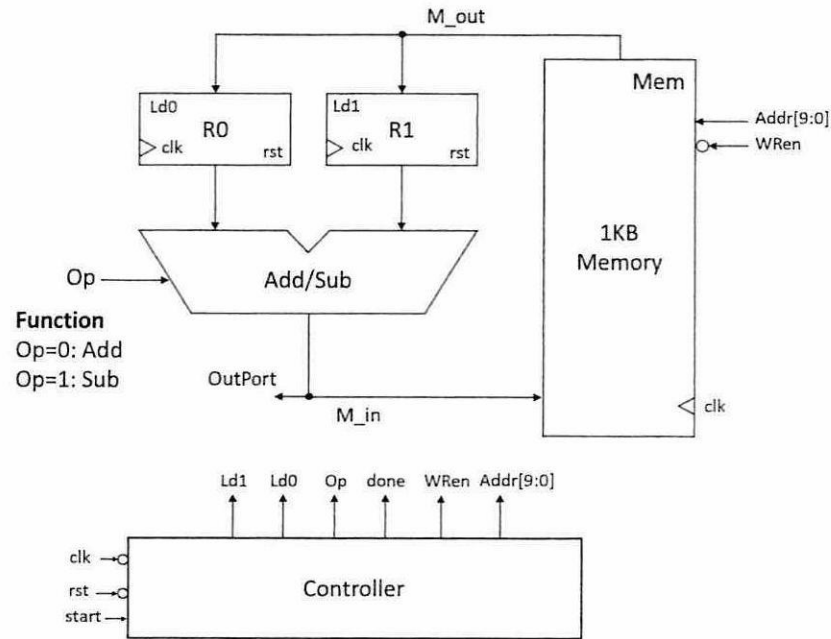

Figure Q5.1
**Q5** Figure Q5.1 shows a datapath and a controller of a digital system, containing two 8-bit registers *R0* and *R1*, an Adder-Subtractor circuit, and a 1KB memory. The controller is used to control the operation of the datapath. The *start* signal is asserted to start the operation, while the *done* signal is used to indicate the completion of the operation.